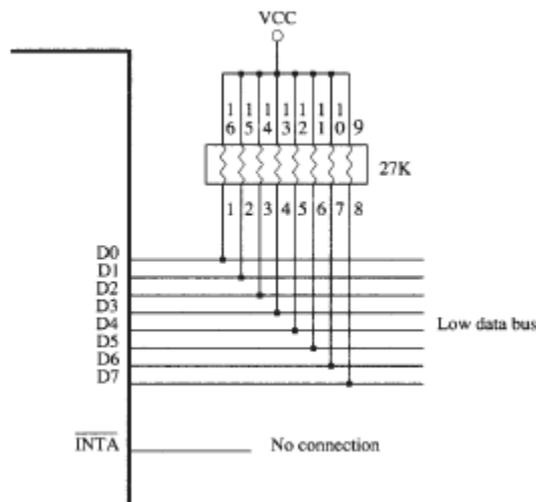

Figure 12-9:A simple method of generating interrupt vector type number FFH in response to INTR
- 1) Method -1: As shown in figure 12.9, INTA pin is not connected in this circuit. Because resistors are used to pull the data bus connections(D₀-D₇) high, the microprocessor automatically sees vector type number FFH in response to the INTR input.